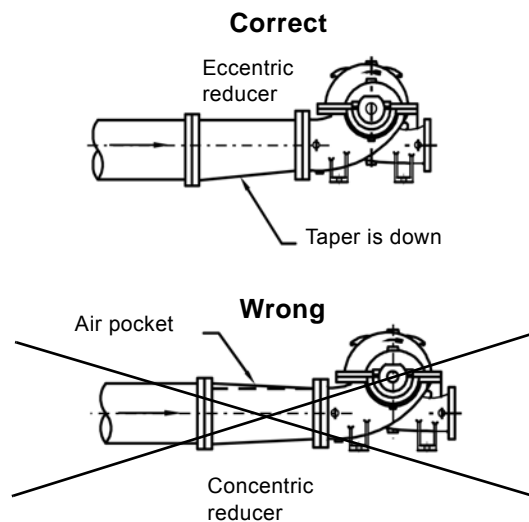

Fig. 7 Inlet pipe
- Use an eccentric reducer, with the tapered side down. See fig. 7.